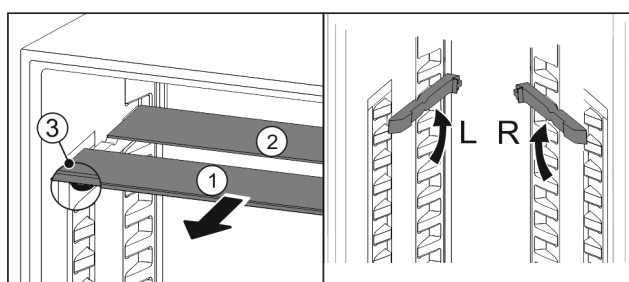

Fig. 135
- ▶ Pull the glass panels out Fig. 135 (1) from the front, one at a time.
- ▶ The glass panel Fig. 135 (1) with the trim strip is at the front.
- ▶ The stops Fig. 135 (3) point downward.